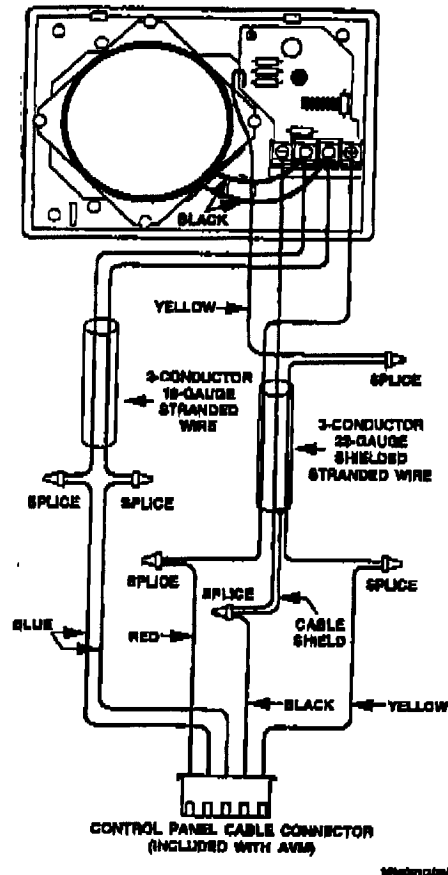

Figure 4. Wiring the AVM to the Control Panel
- Connect terminals as shown in Figure 4. Use 18-gauge wire for speakers and 22-gauge for power, ground, and microphone.